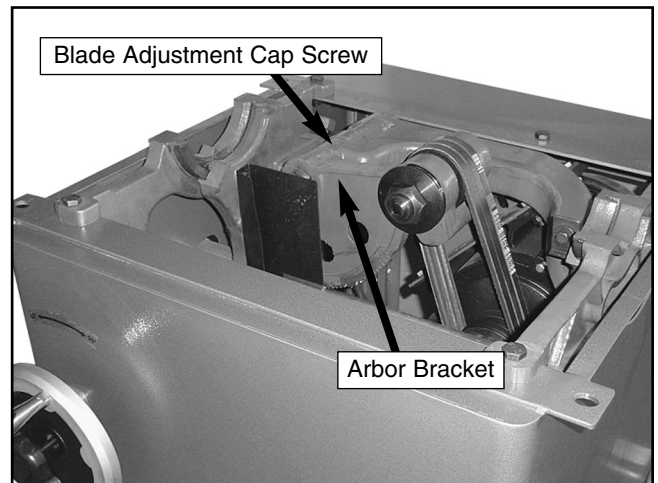

Figure 31. Adjusting arbor bracket.
2. Loosen the blade adjustment cap screw shown in **Figure 31**.